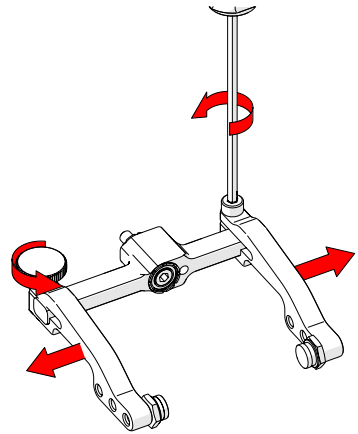

Fig. 159 - Remove probe holder arms
3. Loosen the probe holder arm adjustment knob and the arm clamp screw. Slide the probe holder arms off the yoke (Fig. 159).